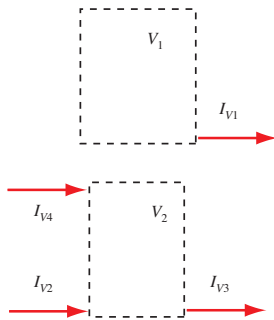

Figure 1.22: A “free body diagram” for two subsystems. Processes and stored quantities are identified for each subsystem.
2. Choose systems or elements. Choose one or several systems, subsystems, or elements. A system is either an identifiable body or a region of space (in the latter case it is called a control volume). Here we choose two control volumes containing the tanks in Fig. 1.22. Generally, there is more than one way of choosing elements. (The word *system* is used differently here than in systems science.)
4. Cut systems or elements out of environment and identify processes. Draw abstract representations of the systems chosen (such as the dashed rectangles in Fig. 1.22). Identify all the flows since these represent the processes (to find them, ask why there are processes and “walk around” the system to find inputs and outputs). Draw an arrow for each flow with respect to its system. Label the arrows. Enter the stored quantities (Fig. 1.22). (Step 4 is called creating *free body diagrams*.)